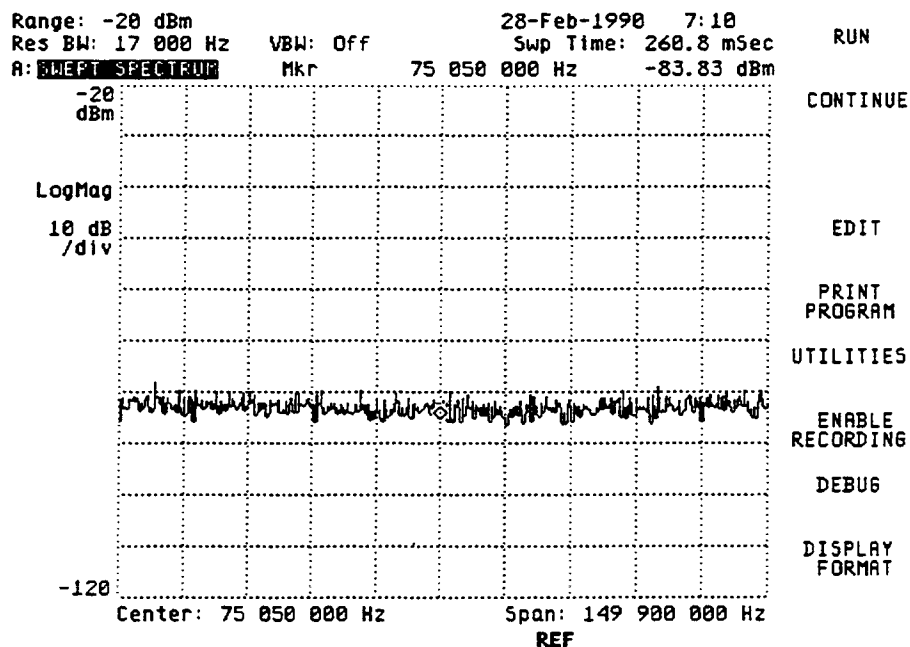

Figure 2-1. HP Instrument BASIC menu
2. Press the [**BASIC**] hardkey and you should see the HP Instrument BASIC menu as shown in figure 2-1.